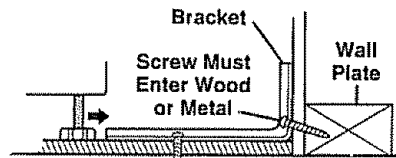

Fig. 2
2. **Wall:** Drill an angled $\frac{1}{8}$ " pilot hole (as shown in **Fig. 2**) in the center of each pre-marked wall hole position (a nail or awl may be used if a drill is not available)
- B. Mount the **ANTI-TIP** bracket with the 4 screws provided as illustrated in **Fig. 2**